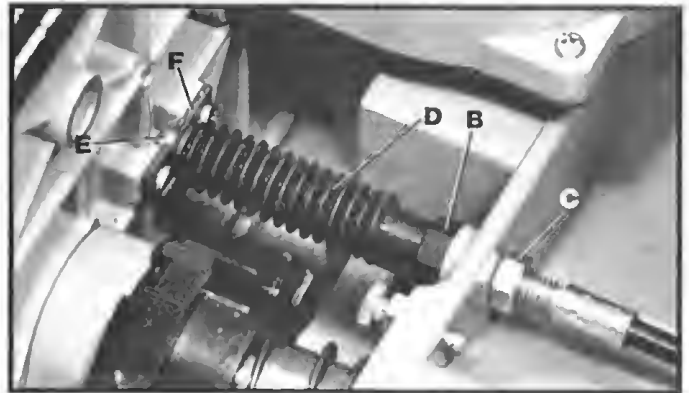

Fig. 11
2. Position cable shield (D) Fig. 11, over cable and insert end of cable (E) into slotted bracket (F). **NOTE:** If end of cable (E) does not reach slotted bracket (F) it will be necessary to tighten and/or loosen the two nuts (B) and (C).